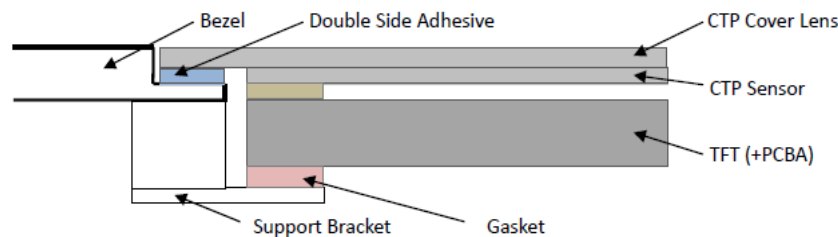

Figure 2
Active area is divided into 9 measuring areas (Refer Fig. 2). Every measuring point is placed at the center of each measuring area.
7.2 Surface Mounting (Figure 2)
7.2 嵌入安装（附图 2）